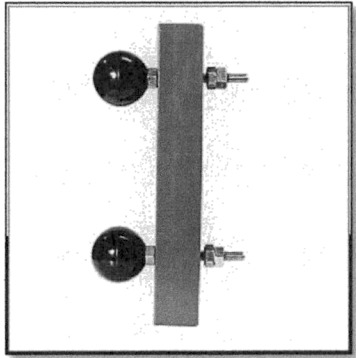

Figure 6-6 Cell Removal Tool
7. Attach the “cell puller tool”, part number RE03197. This tool, shown in Figure 6-6, is available from your local C&D TECHNOLOGIES representative.